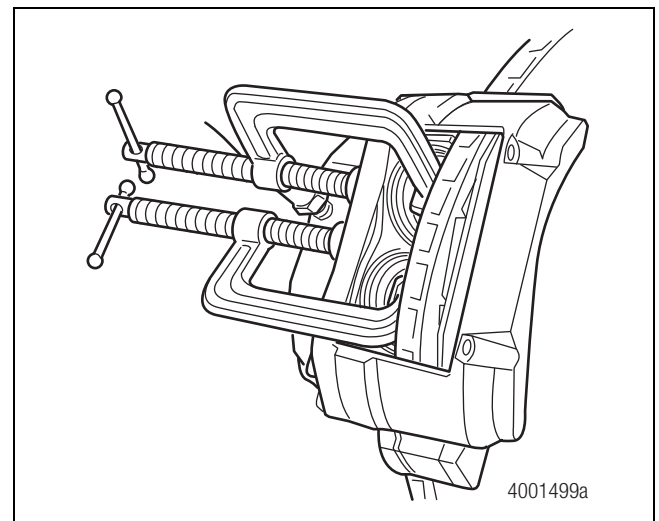

Figure 3.2
5. Compress the caliper pistons. Figure 3.2. Check that the piston boots are not damaged.